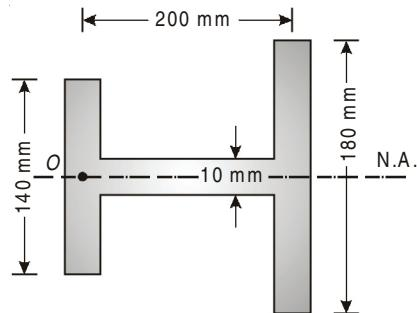

Fig. 12.26
12.3. The cross section of the beam shown has a uniform wall thickness. Determine the location for shear relation to point O . (Fig. 12.26)